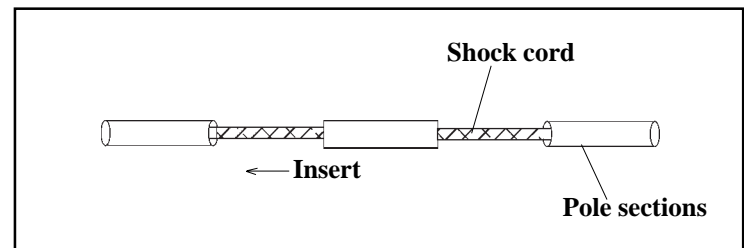

FIGURE 2
Assemble the three poles by joining the sections together. These are slip joints. Do not force these joints together. The internal shock cord holds the poles somewhat rigidly together (see Fig. 2). **Be careful of the pole ends as they are a potential hazard (over head power lines, eyes) and are not easily controlled due to the pole length and flexibility.** After assembly they should be placed on the ground. After assembling the poles you should have two (2) long poles and one (1) shorter pole. The short pole is the middle support pole. One pole will have a yellow sticker on each end. **This is the 12 o'clock pole.**